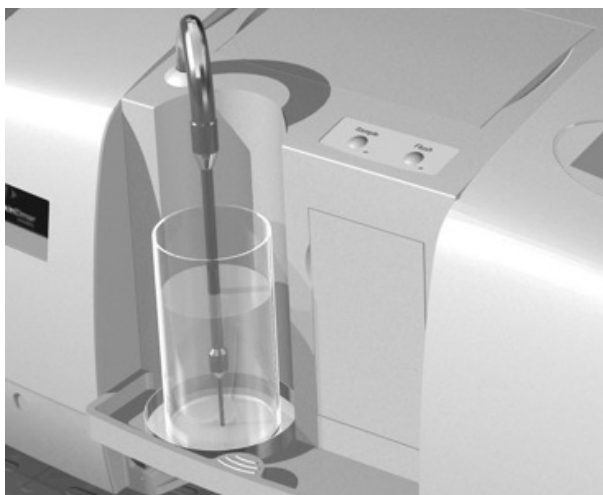

Figure 11 Sample container in place, probe lowered into sample
3. Push down on the probe to lower it into the sample, as shown in Figure 11.